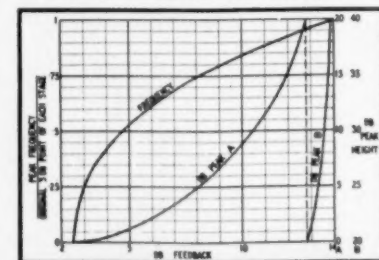

Fig. 7. Effect of negative feedback on peak frequency and height, using a feedback loop with four identical stages.
To find the height of the peak, still using  $x$  as independent variable, values of  $F$  from (41) are substituted into (40). The results are plotted in Fig. 7, using  $F$  as the common variable for convenience.